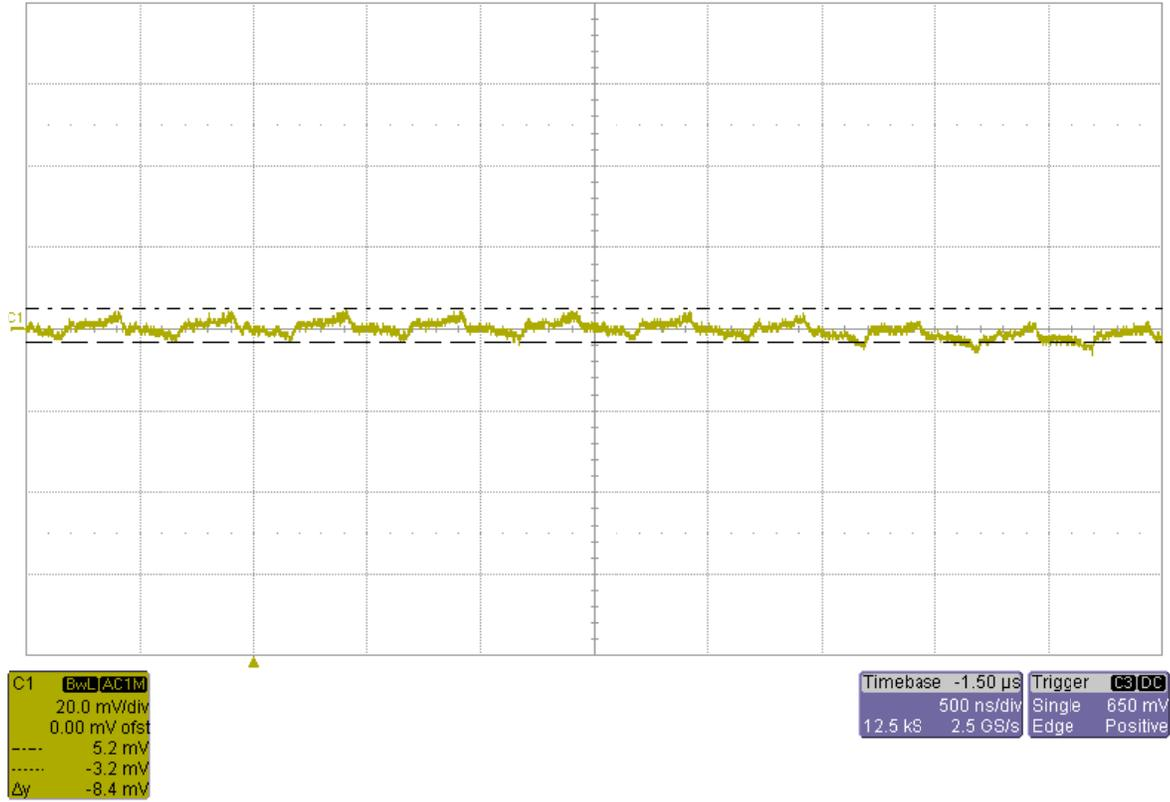

Figure 11: Output Voltage Ripple of 1V5_BUCK at 1.2 A
- Figure 11: Output Voltage Ripple of 1V5_BUCK at 1.2 A